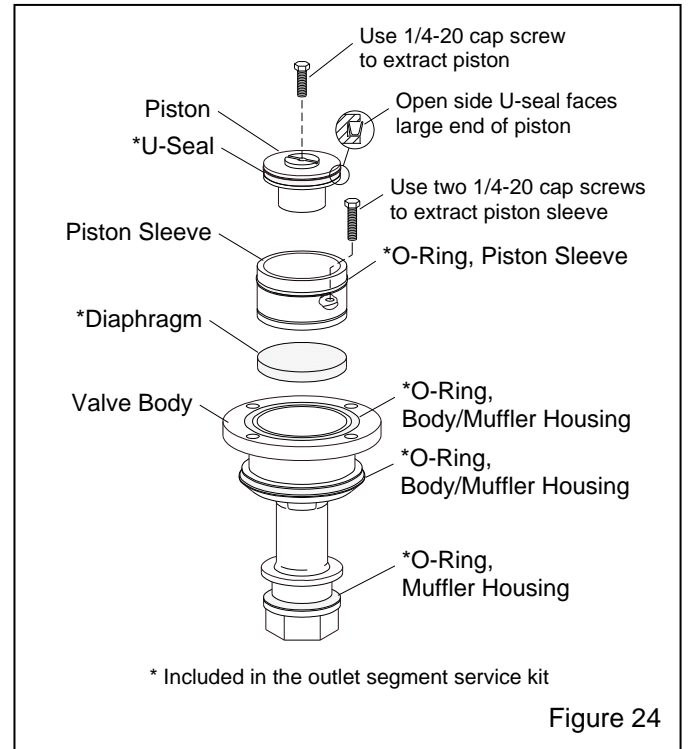

Figure 24
**6.4.4** Refer to Figure 24 and thread a 1/4-NC screw into the threaded hole in the bottom of the piston. Grip the screw, and pull out to remove the piston. Remove the screw after the piston is extracted.
**6.4.9** Lubricate the U-seal with an O-ring lubricant or light-weight tool oil, and place the U-seal into the groove in the piston. The open side of the seal must face the bottom of the piston, as shown in Figure 24.
**6.4.13** Slide the piston and sleeve assembly into the valve body. The piston faces away from the bottom of the body, as shown in Figure 24.
**6.5.4** Inspect the two sealing O-rings (body/muffler housing O-rings) on the exhaust body (ref Figure 24), and replace them if worn or damaged.